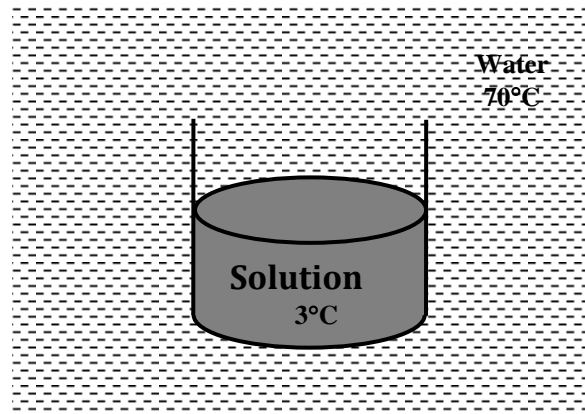

Figure Q2[a]
- Q2. [a] An engineer intend to warm up some chemical solution for experiment, he pours the solution into a thin walled glass whose diameter is 6 cm. The height of the solution in the glass is 7 cm. She then places the glass into a large pot filled with hot water at 70°C (as in Figure Q2[a]). The solution is stirred constantly. If the heat transfer coefficient between the water and the glass is $120 \text{ W/m}^2\text{K}$, determine how long it will take for the solution to warm up from 3°C to 38°C . Determine whether estimation of lumped system is acceptable or not. Justify your answer. The thermal conductivity, density, and specific heat of the solution at 20°C are $k = 0.598 \text{ W/m}^\circ\text{C}$, $\rho = 998 \text{ kg/m}^3$, and $c_p = 4.182 \text{ kJ/kg} \cdot ^\circ\text{C}$.